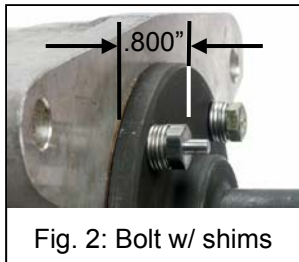
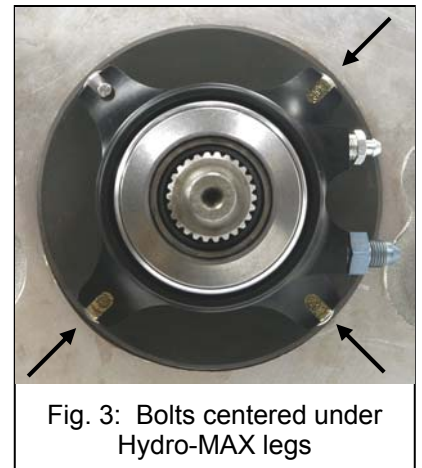

Fig. 2: Bolt w/ shims
Fig. 3: Bolts centered under Hydro-MAX legs
The bolt heads need to be approximately .800" tall when measured from the top of the bolt head, to the transmission face (see Figure 2). Between 2 & 4 washers are usually needed to get to this height. Ensure that you have the same number of washers under all four bolts. To keep the Hydro-MAX from spinning, you must select the proper size anti-spin stud (either 5/16" or 3/8", depending on your transmission's bolt size), and install it in place of one of the stock bolts. PTT recommends the use of an anaerobic thread locking compound such as Loctite® on all bolts. **NOTE:** Some transmissions do not have equally spaced bolt locations. Make sure that you install the anti-spin stud on one of the three bolts that are not rotated out of the equally spaced positions (see Figure 3). *Set up your spare transmission now, as well!* Hydro-MAX installation kits are available separately for this purpose. Ask for part number RH7111.
5. Change the anti-spin stud location if at least three of the four legs are not sitting exactly on the center of the bolt heads (See Figure 3).